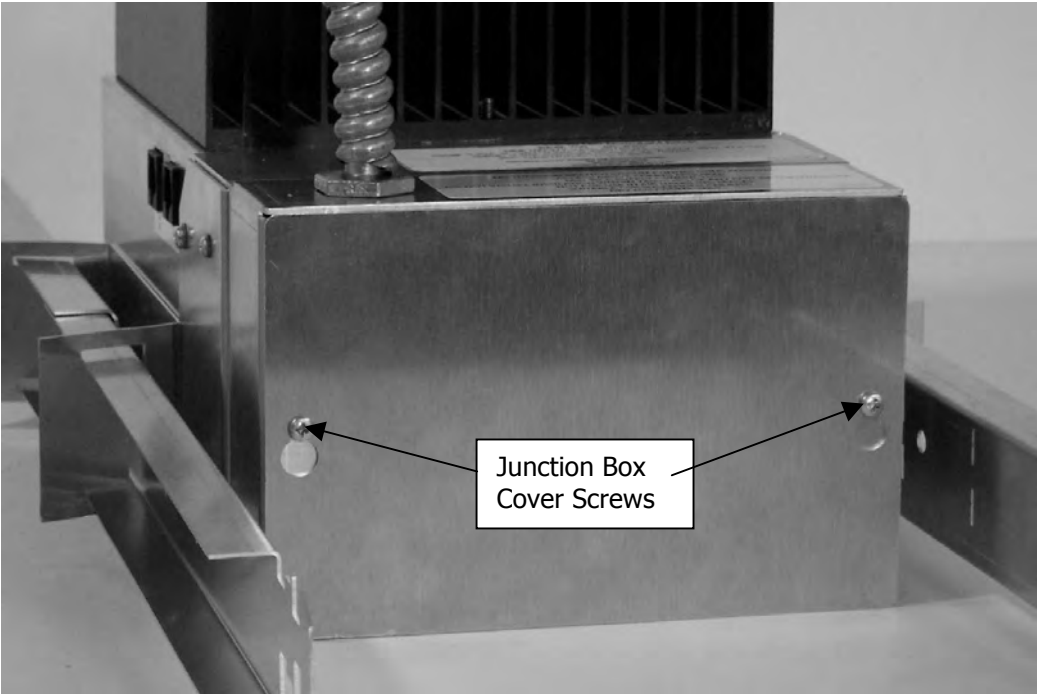

Figure 7: Electrical Junction Box Cover and Screws
11. Locate the electrical Junction Box on the Light Fixture Assembly. Remove the cover plate by loosening the two cover screws. See Figure 7.